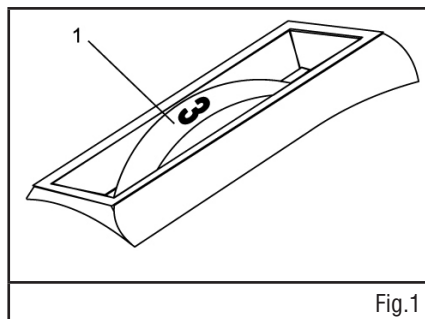

Fig.1
Set the rotary tool speed by rotating the variable speed control dial (1) to the appropriate speed (see figure 1). Position the speed control dial at “1” for the slowest speed, “3” for medium speed and “MAX” for the highest speed.